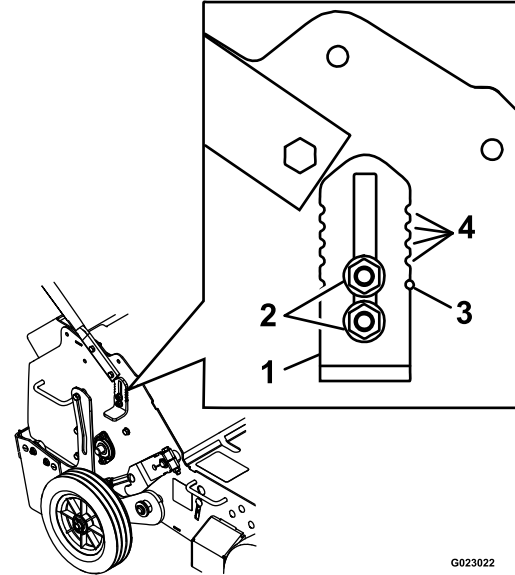

Figure 14
3. Loosen the nuts securing the wheel stop on the right side of the machine (Figure 14).
6. Repeat steps 3 through 5 for the wheel stop on the left side of the machine. Use the visual indicator notches in the wheel stop and indicator holes in the frame to set the wheel stops to the same height on each side (see Figure 14).